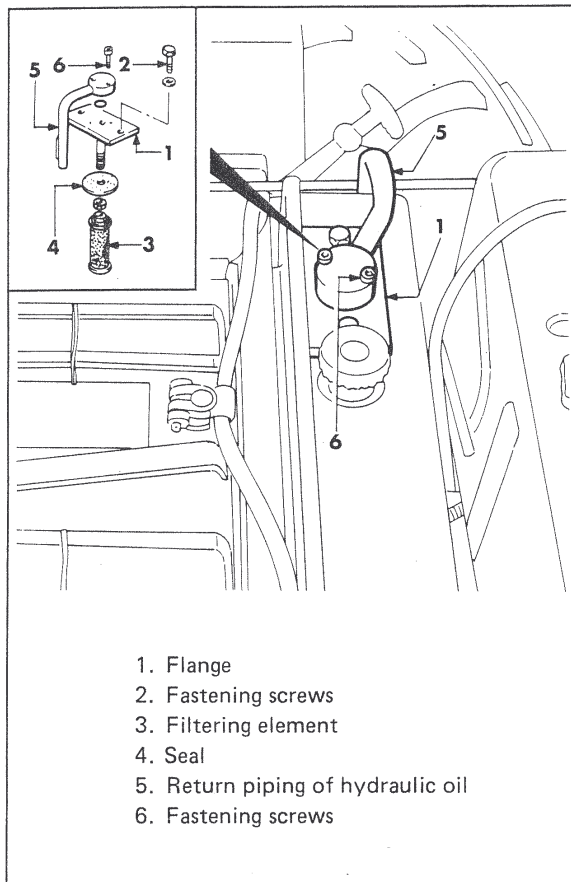
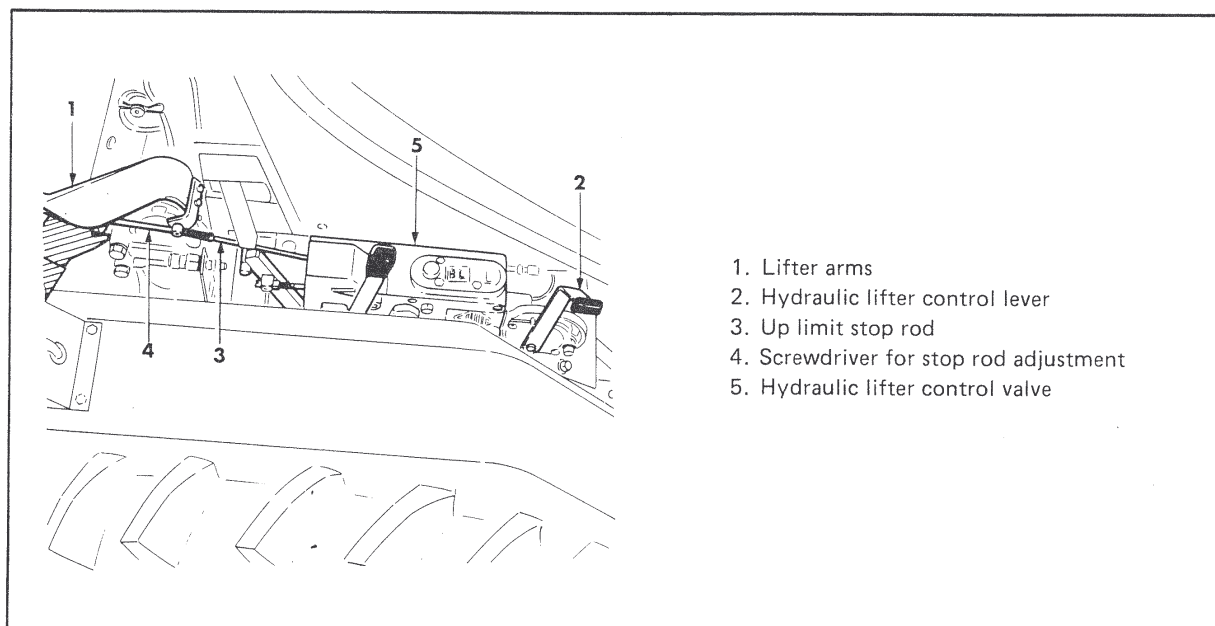

Figure 23. Adjustment of the differential locking control
Figure 38. Adjustment of UP limit stop rod
HYDRAULIC SYSTEM: replace filtering cartridge of hydraulic system reservoir. Operating sequence (see fig. 23):
a. Lifter will not come up (even at load).	1. Insufficient oil level. Fill oil reservoir. 2. Jamming pilot valve (14) caused by impurities contained in oil. Unscrew the four screws holding cover (26), unlock valve and clean. To prevent trouble from taking place again, carefully clean oil filter cartridge on return (see fig. 23).
b. Lifter does not lower. (This may be encountered in the case of a new apparatus after a fairly extended inactivity from final test).	1. Jamming of shaft (3). Dismount cover (22), place the control lever in down position. Unlock shaft gently tapping on.
d. Lifter does not remain in place; it rises or falls with jerking action. When engine is off, load creeps down.	1. Leaking check valve (16). Take off cover (26), remove valve and clean valve seat. If seat and valve are found to be in good conditions and trouble is still encountered; change or filter oil and clean cartridge. 2. Oil seepage through piston seal or seal rings of cylinder cap, or through seal ring located between the body of the distributor block and the housing. Replace seal.
e. Poor lifting power. Anomalous overheating of the system.	1. Pump low efficiency. Overhaul pump or replace it. 2. Improper setting of relief valve (9, 10). Remove cover (26) and replace spring. 3. Valve plunger (9) and seat (10) are out of order and allow oil seepage. Replace the valve. 4. Impurity on the pilot valve seat (14). Take off cover (26), remove valve and clean valve seat. 5. Pilot valve seat worn out (14). Overhaul distributor block.
f. When lifter arms are fully "UP", relief valve cuts-in.	1. Jamming of shaft (3). Disassemble cover (22), place control lever in down position and release shaft by tapping. 2. Improper setting of the raise limit-stop. Lift lifter arms (fig. 38, detail 1), through lever (2), adjust tie-rod (3) with a screwdriver (4) until engine speed rate is caused to increase hydraulic circuit not under pressure any longer).